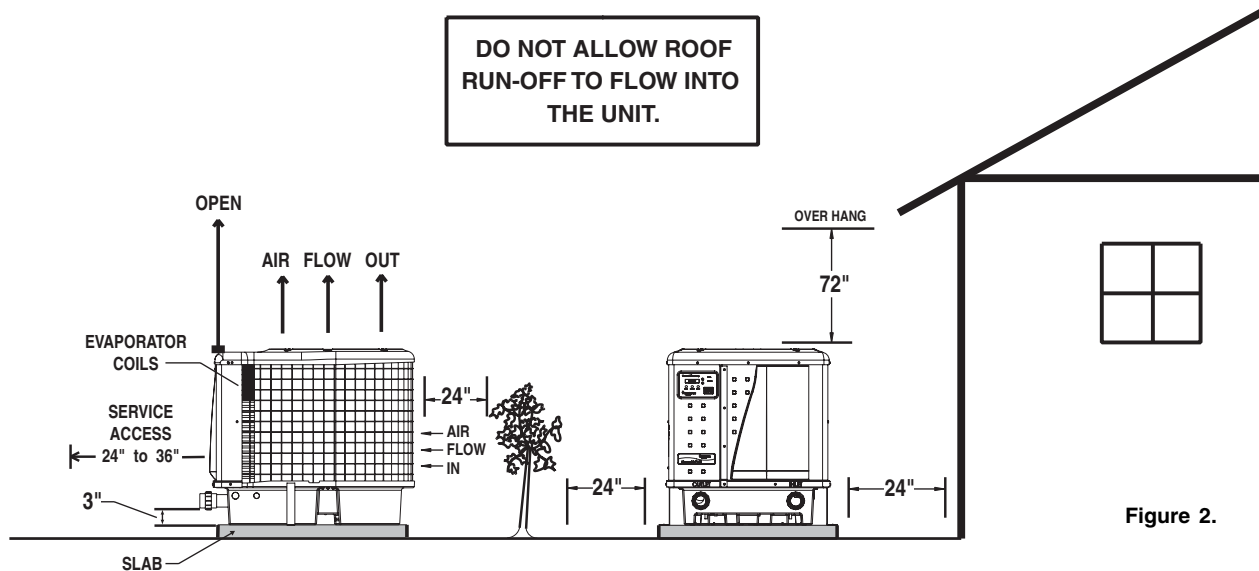

Figure 2.
1. At least 24 in. [61 cm] access must be available in the front and 24 in. [61 cm] on all the other sides of the heat pump for service and proper air flow, see Figure 2.
2. If the heat pump is to be installed under a cover or under a vertical overhang, the unit must have a minimum of six (6) feet [1.83 m] clearance from the top of the heat pump.
3. Install a minimum of five (5) feet [1.52 m] from the inside wall of the pool or spa unless the heat pump is separated from the pool or spa by a five (5) foot high solid fence or other permanent barrier. Canadian installations require a minimum of three (3) meters from pool water.
Make sure the heat pump is not located where large amounts of water may run-off from a roof into the unit. Sharp sloping roofs without gutters will allow massive amounts of rain water, mixed with debris from the roof to be forced through the unit, see Figure 2. A gutter or down spout may be needed to protect the heat pump.